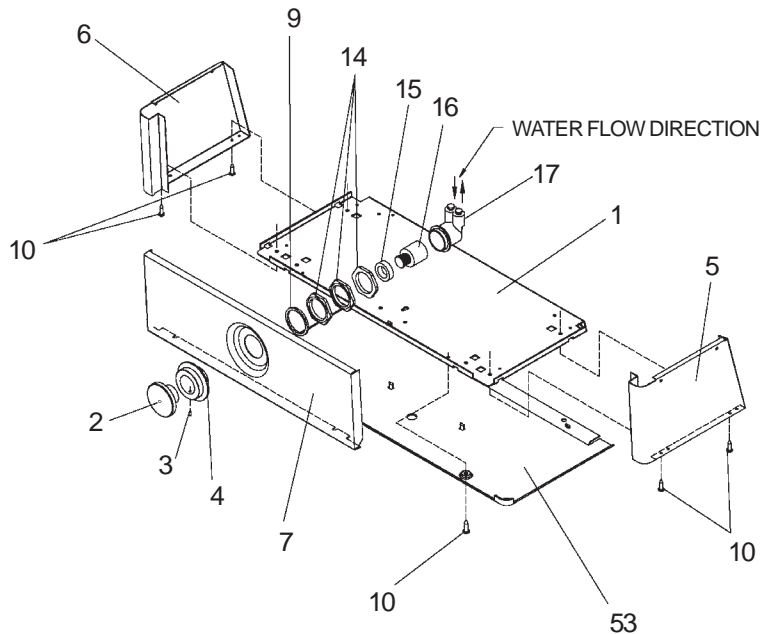
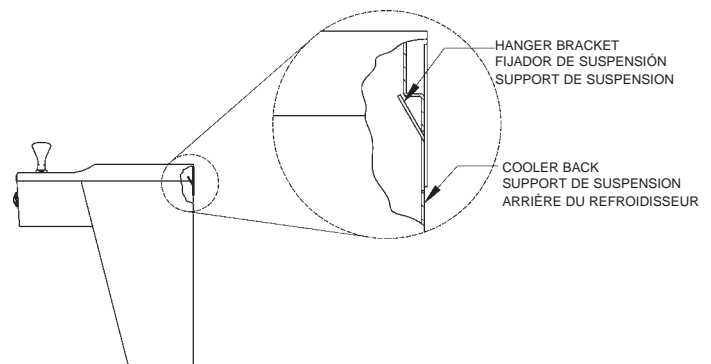

FIG. 3
FIG. 4
- Anchor hanger securely to wall using all six (6) 1/4 in. dia. mounting holes.
- 4) Hang the cooler on the hanger bracket. Be certain the hanger bracket is engaged properly in the slots on the cooler back as shown in Fig. 4.
- 5) Loosen the two (2) screws holding the lower front panel at the bottom of cooler base and two (2) screws at the top. Remove the front panel and set aside.
- 8) Stream height is factory set at 45-50 PSI. If supply pressure varies greatly from this, adjust the screw on regulator item 16 by using a small screwdriver through the small hole in the push button item 2 (See Fig.3). CW adjustment will raise stream and CCW adjustment will lower stream. For best adjustment, stream should hit basin approximately 6-1/2" (165mm) from bubbler.